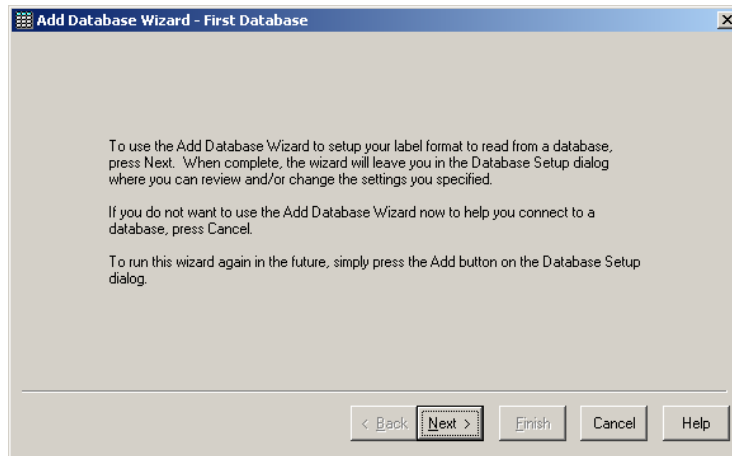

Figure 71
Step 2 – Select NEXT (Figure 71)